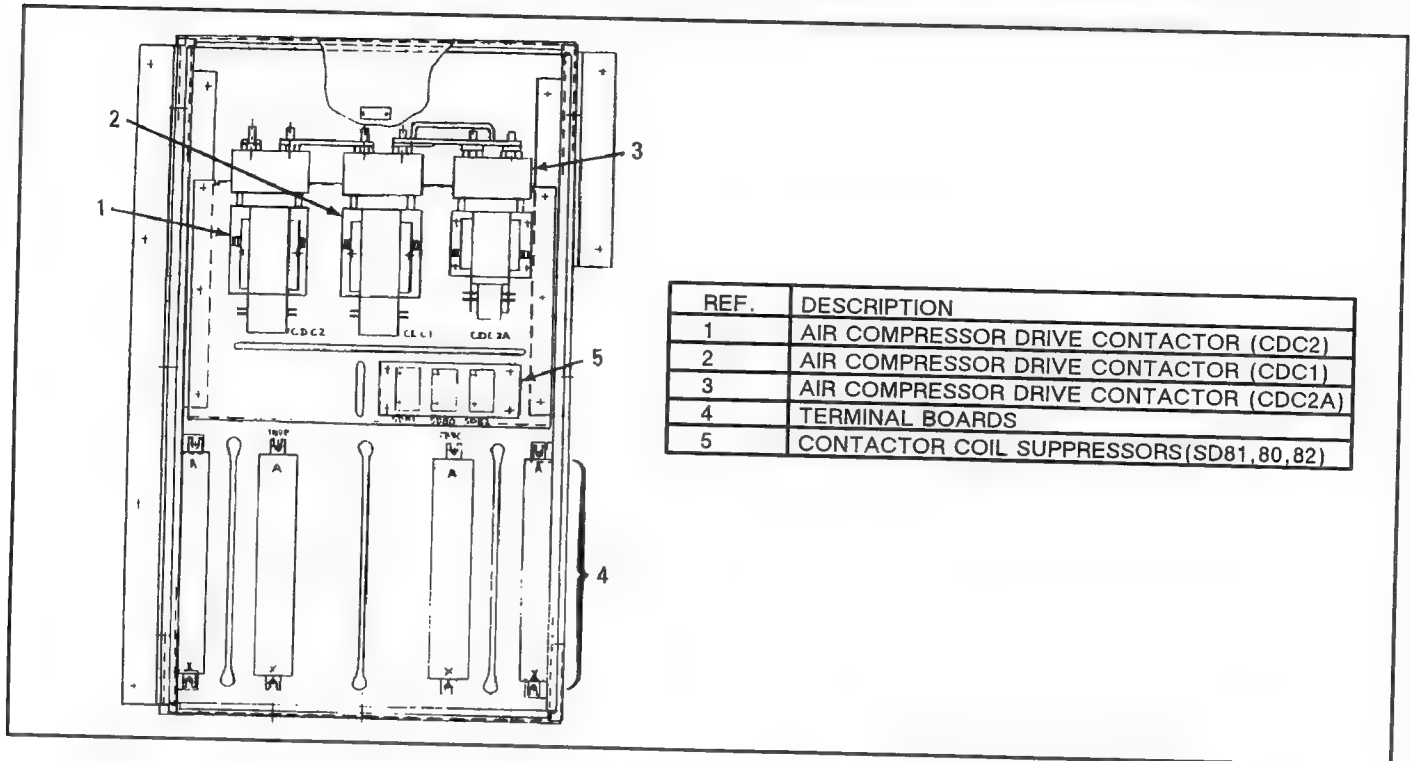

FIG. 28. CONTROL AREA 9 - LOCATED IN THE RADIATOR CAB ON THE LEFT SIDE OF THE LOCOMOTIVE. E-34098A.
Located in the radiator cab on the left (B) side of the locomotive (Fig. 28).